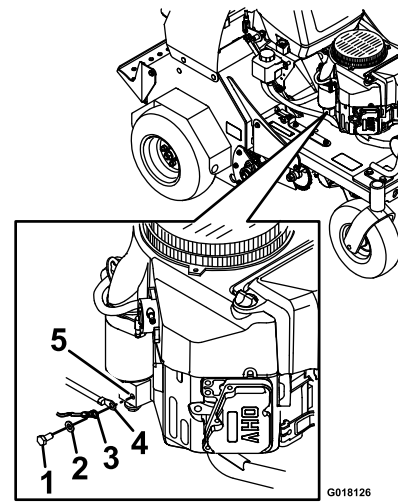

Figure 4
2. Remove the screw, washer, and ground cable from the engine. Connect the negative battery cable as shown in Figure 4.